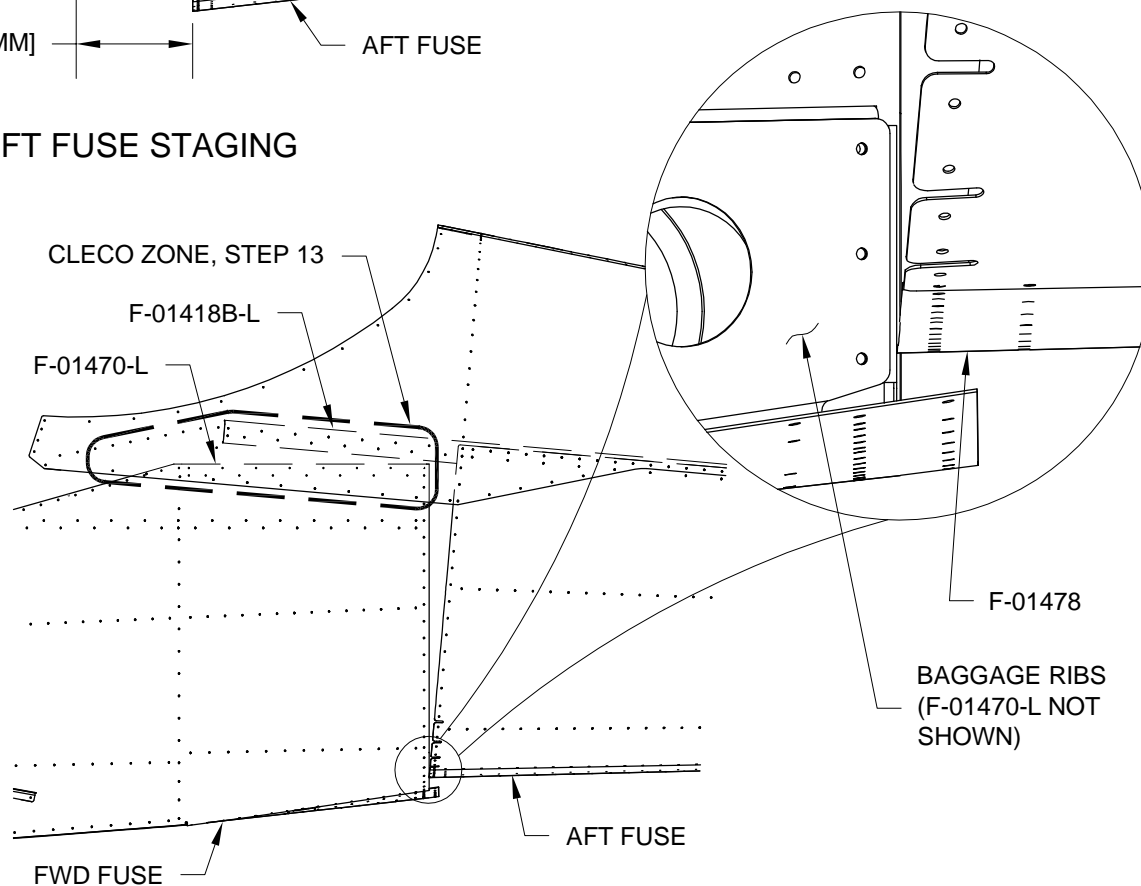

FIGURE 3: AFT FUSE TO BAGGAGE RIB CONTACT (SOME PARTS OMITTED FOR CLARITY)
Step 5: Move the Aft Fuse fwd until the F-01478 contacts the flanges of the baggage ribs as shown in Figure 3.